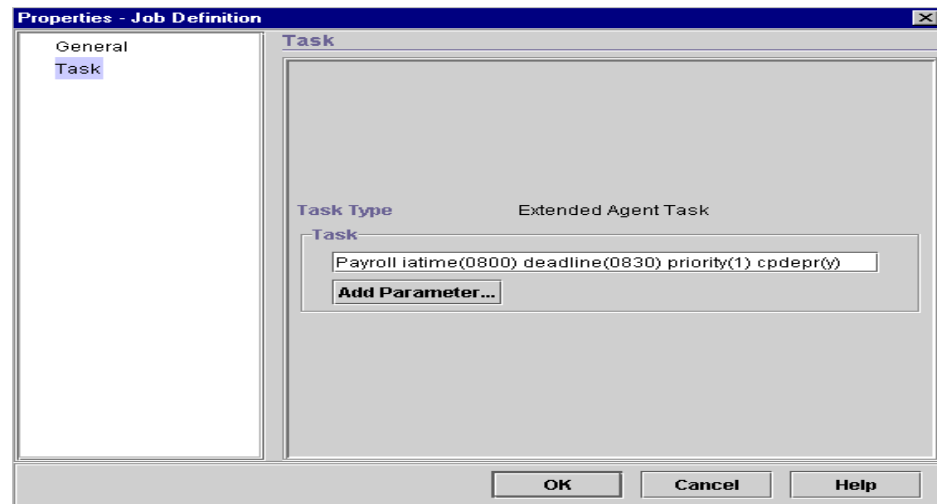

Figure 210. Internetwork definitions
3. Define the OPC parameter in the task field as shown in Figure 210. At least, the application name is required.